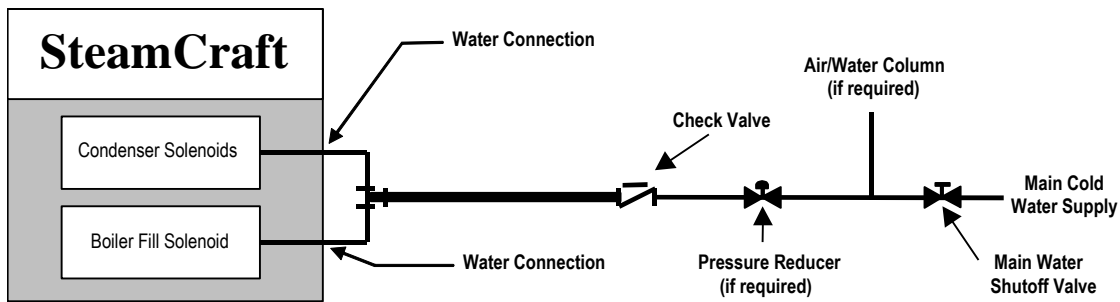

Figure 3-3 Cleveland Range Single Water Supply Arrangement
- b. **If the static pressure is above 60 psi, a pressure regulator must be used and set at approximately 50 psi. Pressure above 60 psi can damage solenoid valves. See Figures 3-3 and 3-4.**
- c. If the supply water meets the requirements shown in the Warranty, then the Single Water Supply Arrangement shown in Figure 3-3 may be used.